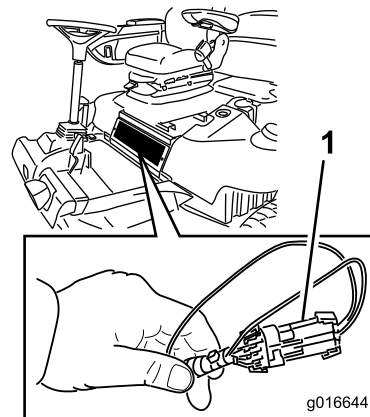

Figure 45
2. Remove the access panel located beneath the front of the seat (Figure 45).
3. Locate the wire harness and connectors near the controller (Figure 45).